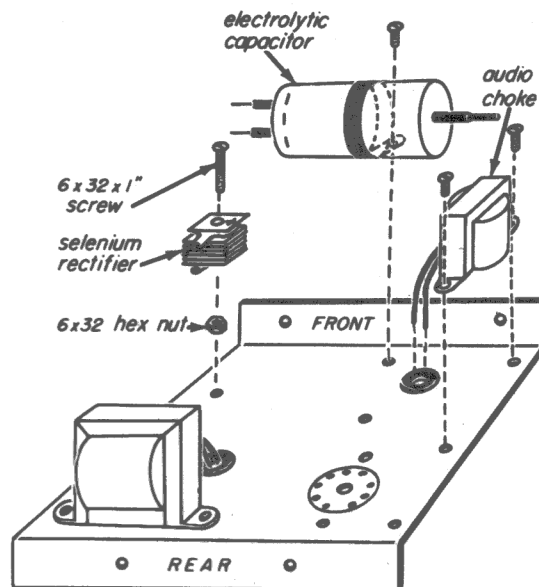
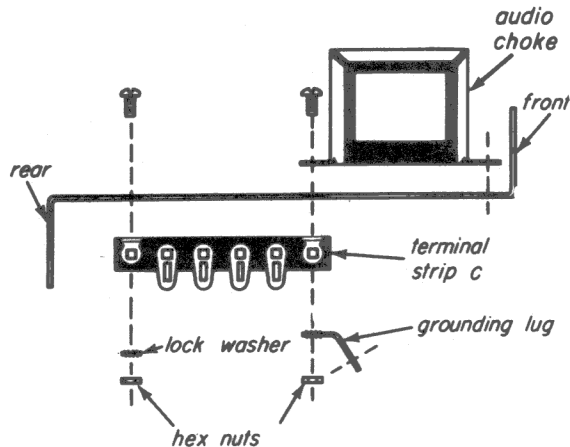

Fig. 20-1
Fig. 20-2
Step 1. Prepare the selenium rectifier (SR) for mounting, as shown in Fig. 20-1. Pass a 6-32 x 1-inch screw through the center hole of the rectifier stack. Make sure the cathode terminal is up, as shown in the figure. The cathode terminal is identified by either a + sign, the letter K, or the word CATHODE. Thread a 6-32 hex nut on the screw and tighten it. Pass the screw through the proper hole in the chassis, as in the figure. Place the rectifier so that the terminals face the power transformer. On the other side of the chassis place a lock
Step 2. Before you mount the audio choke, measure its continuity using the R x 100 range. You should read about 800 ohms. Cut one of the leads of the choke ( $L_1$ ) so that it is about 3-3/4 inches long and the other lead so that it is about 2-3/4 inches long. Strip off 1/4 inch of insulation from the end of each lead. Place the audio choke on top of the chassis over the proper mounting holes, as shown in Fig. 20-1. Position the choke so that the leads face the 1/4-inch rubber grommet. Pass a 6-32 x 1/4-inch screw through the hole in the choke that is closest to the front edge of the chassis. Fasten, using a lock washer and a 6-32 hex nut. Slip a 6-32 x 1/4-inch screw through the other hole in the choke. On the underside of the chassis, place one side of a 4-lug terminal strip and a grounding lug over this screw as shown in Fig. 20-2. Fasten, using a lock washer and a 6-32 hex nut. Pull the leads of the choke through the 1/4-inch rubber grommet to the underside of the chassis.
Step 3. Fasten the other side of the 4-lug terminal strip to the chassis with a 6-32 x 1/4-inch screw, a hex nut, and a lock washer, as shown in Fig. 20-2. This terminal strip is TS-C.
on top of the chassis, as shown in Fig. 20-1. The black (common) lead should face the audio choke. Pass a 6-32 x 1/4-inch screw through the bracket and chassis, and fasten on the underside of the chassis with a lock washer and a 6-32 hex nut. Cut one of the red (positive) leads so that it is 6 inches long and strip 1/4-inch of insulation from the end. Pull the two positive leads of the electrolytic capacitor through the large grommet to the underside of the chassis. Dress the leads so that they are away from the selenium rectifier.